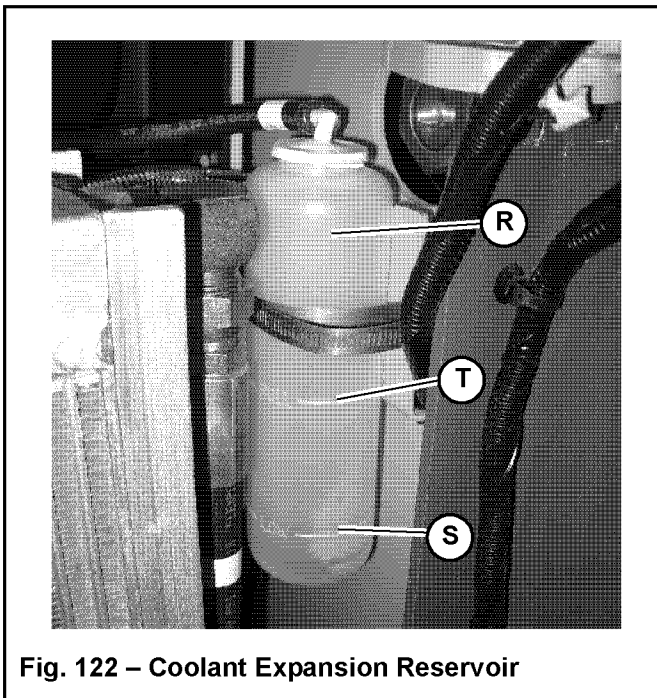

Fig. 122 – Coolant Expansion Reservoir
5. Check the coolant level in the expansion reservoir (R, Fig. 122). Coolant level must be between the full (T) and low (S) marks on the expansion reservoir. Add coolant to the expansion reservoir as required.